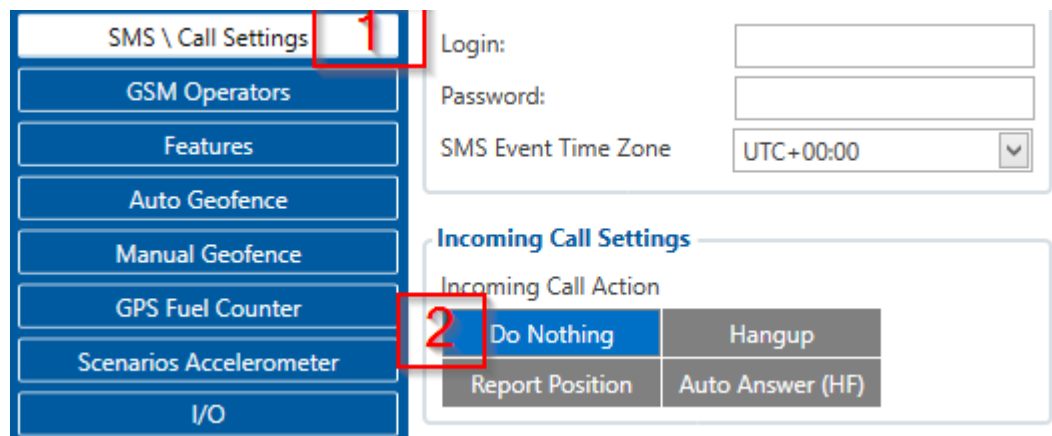

Figure 35 Incoming Call Action settings
9. Go to „**SMS \ Call Settings**“ in left menu and set „**Incomming Call Action**“ to „**Do Nothing**“ visible at Figure 35.